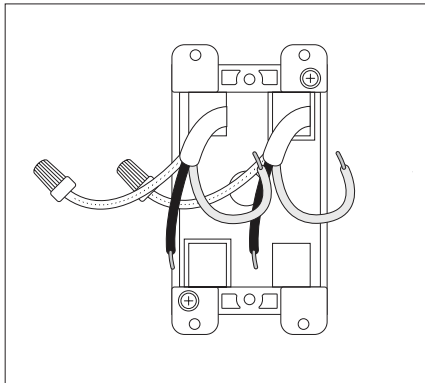

fig. 10
- Ketra fixtures to be controlled by the X2 should have an uninterrupted source of power. They should NOT be wired to a light switch or other intermediary device that could cut their power. If you are replacing lamps that are already wired to a light switch, it is recommend that the light switch be physically replaced by the X2 (see figure 10).
2. Run power to wall box utilizing stranded or solid core 12-18 AWG wire (see figure 10).